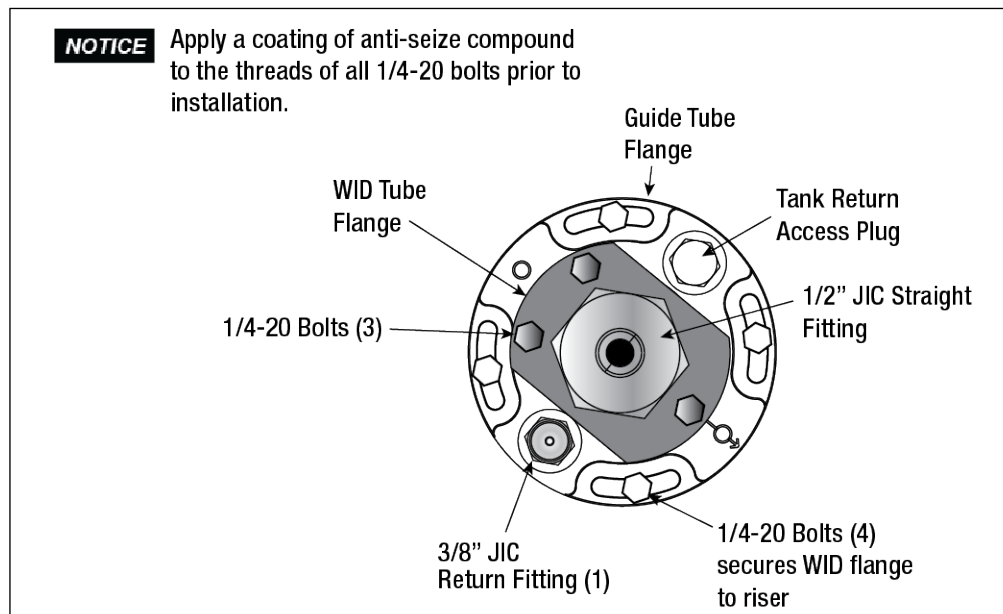
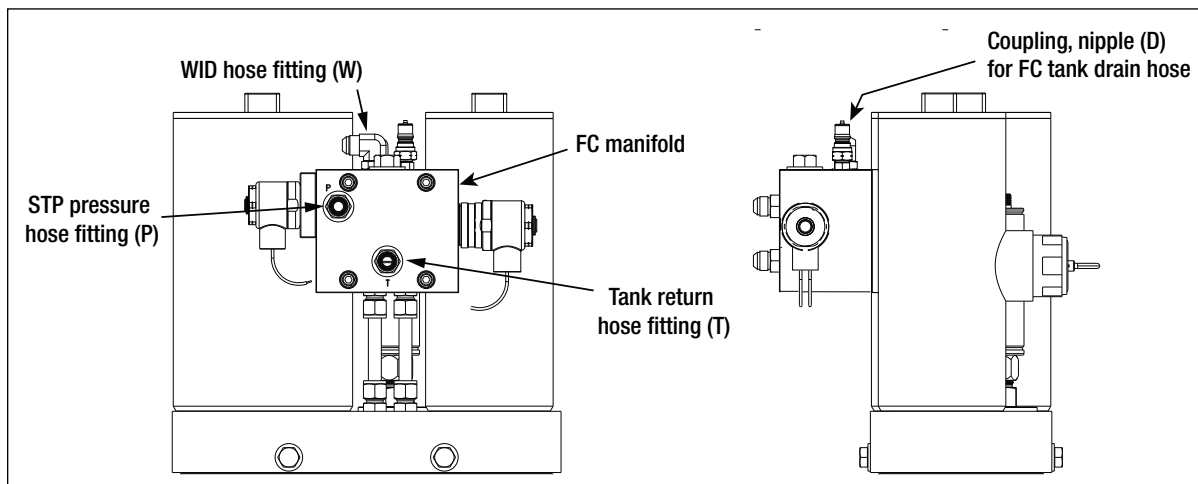
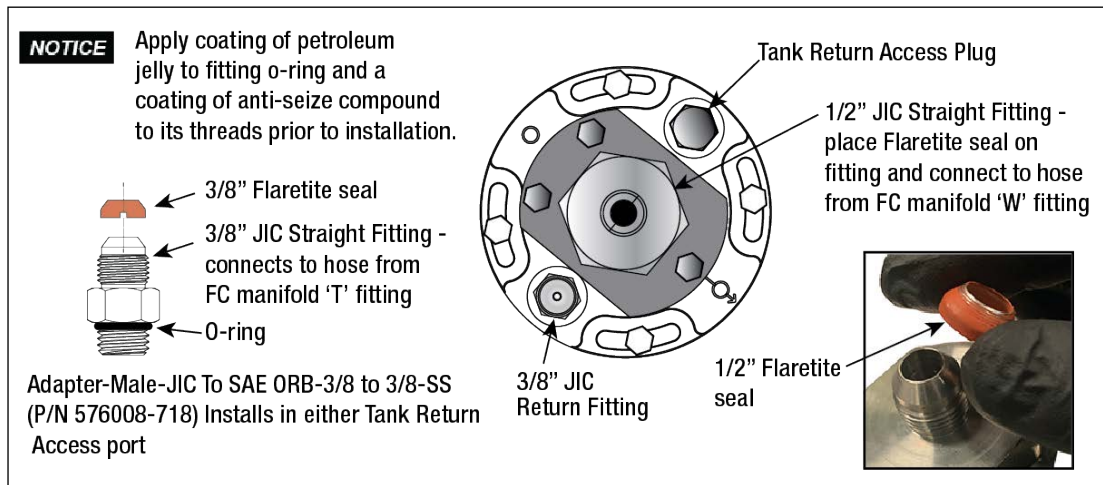

Figure 9. Securing WID Flange to Guide Tube Flange
Figure 22. Manifold Hose Connections
Figure 23. WID Hose Connections
3. Place a 1/2" flaretite seal from the kit onto the male 1/2" JIC fitting marked 'P' on the front of the Manifold and attach the 1/2" JIC straight fitting of the hose to it (see Figure 22). Tighten the fittings at both ends of the hose.
4. Depending on accessibility, the tank return fitting may be moved to either tank return access ports on the guide tube flange. (see Figure 23). This fitting comes pre-installed.
5. Place the 3/8" flaretite seal from the kit onto the 3/8" JIC male end of the tank return adapter fitting (Figure 23). Attach the 3/8" JIC elbow female fitting end of the drain hose to the 3/8" JIC male drain adapter fitting.
6. Place a 1/2" flaretite seal from the kit onto the 1/2" JIC fitting marked 'T' on the front of the Manifold and attach the 1/2" JIC straight end of the drain hose to it (see Figure 22). Tighten the fittings at both ends of the hose.
7. Place a 1/2" flaretite seal from the kit onto the male 1/2" JIC elbow fitting labeled 'W' on top of the manifold (see Figure 22) and attach the 1/2" JIC straight end of the hose to it. Place a 1/2" flaretite seal from the kit onto the male 1/2" JIC straight fitting on top of the WID flange (Figure 23) and attach the 1/2" JIC elbow fitting of the hose to it (see Figure 9). Tighten the fittings at both ends of the hose.